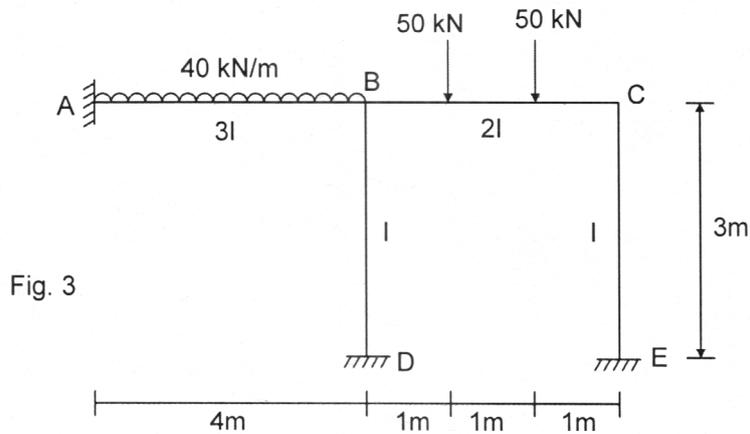

Fig. 3
3. Analyse the frame shown in fig. 3 by moment distribution method and sketch bending moment diagram. 20